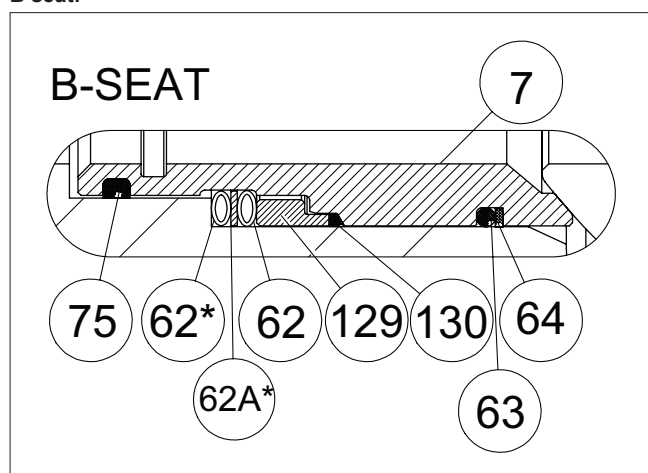

Fig. 12 B seat
- Place the back seal (O-ring) (63) into the groove in the seat. See Figure 12.
- Place the back-up rings (64) made of PTFE strips at the side of the O-ring. To ensure that the seam becomes flexible, the strip must have slanted ends.
- For easier assembly, lubricate the O-ring and back-up ring surfaces facing the seats with silicone grease or another suitable substance. Please ensure the compatibility with the flow medium. Place the backseal (130) and ring (129) on the seat.
- Place the spring (62) on the seat (7). NPS06 has 2 pcs spring (62) separated with spacer ring (62A). See section S seat for installation of part (62).
- Place the braided graphite (75) into the groove in the seat.